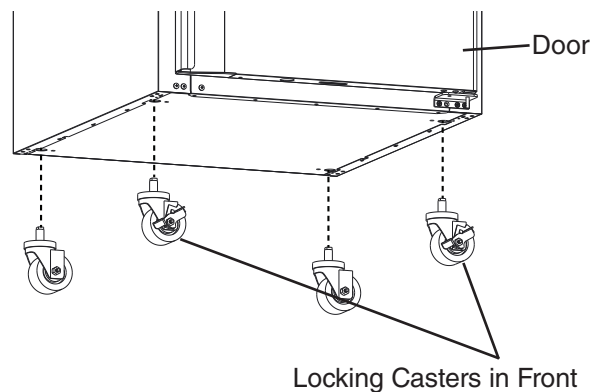

Fig. 2
- 3) Attach the casters to the bottom of the unit. Locking casters should be attached to the front of the unit. See Fig. 2.